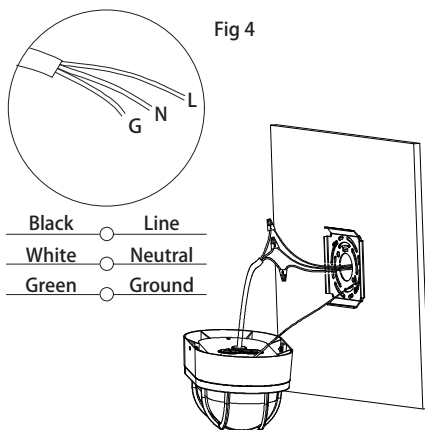

Fig 4
4. Connect the light input wire. (Fig 4)